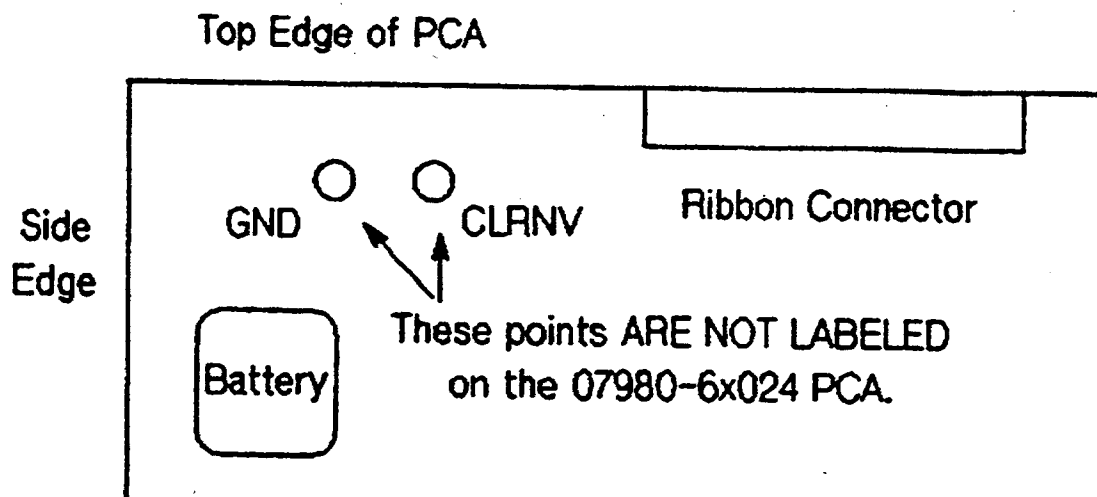

Figure 3-6. Data Buffer PCA GND/CLRNV Jumper Points
1. Attach a jumper wire between the GND and CLRNV points on the Data Buffer PCA as shown in Figure 3-6.